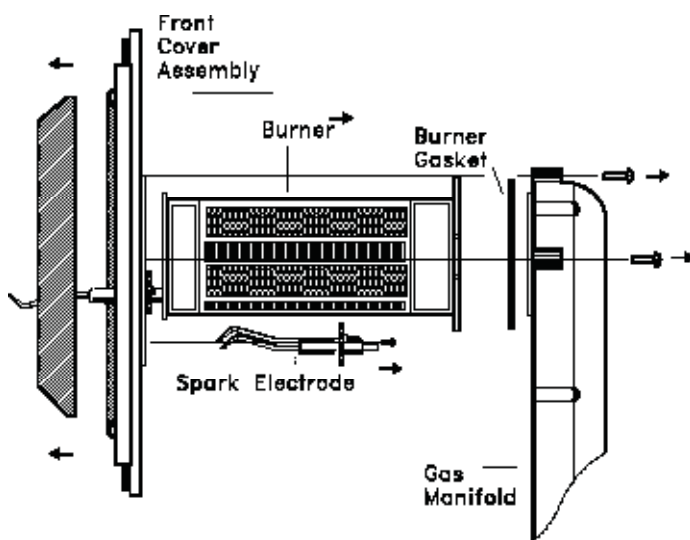

Fig.60
8.9 TO REMOVE/REPLACE COMBUSTION CHAMBER FRONT INSULATION (Fig.60).
- 8.11.1 For access ref. sect. 8.9 (fig60).